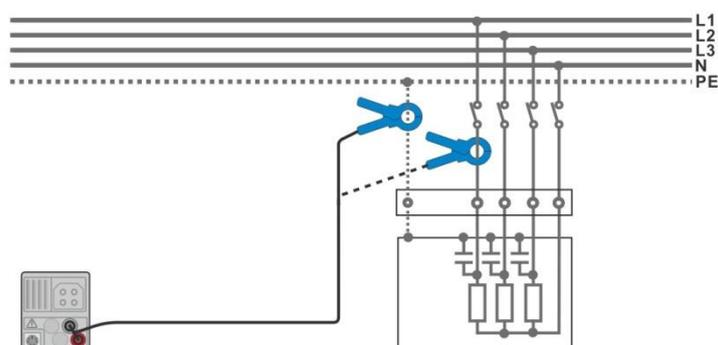

Figure 7.76: PE leakage and load current measurements
- › Connect the clamp to the object under test, see **Figure 7.76**.